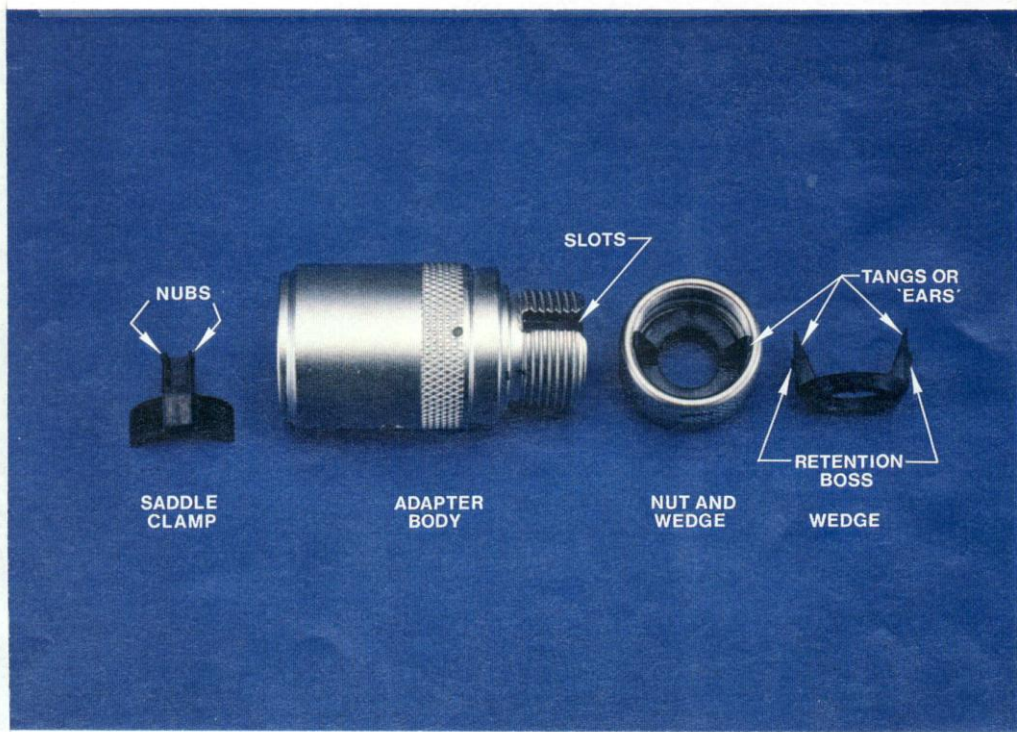

FIGURE 1
A1. The following conditions are acceptable if the backshell accessory functions properly when the stated actions are taken. See Figure 1 herein for component terminology.
B. The following conditions are acceptable if the stated criteria is met. See Figure 1 herein for component terminology